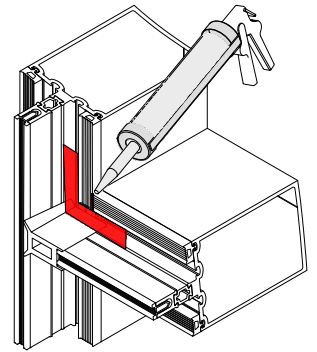

FIG. 1
- Apply a bed of sealant 2" [51] around each corner of the frame ensuring it comes in contact with the gasket. Apply a dab of sealant on the the gasket joints. See **FIG. 1**